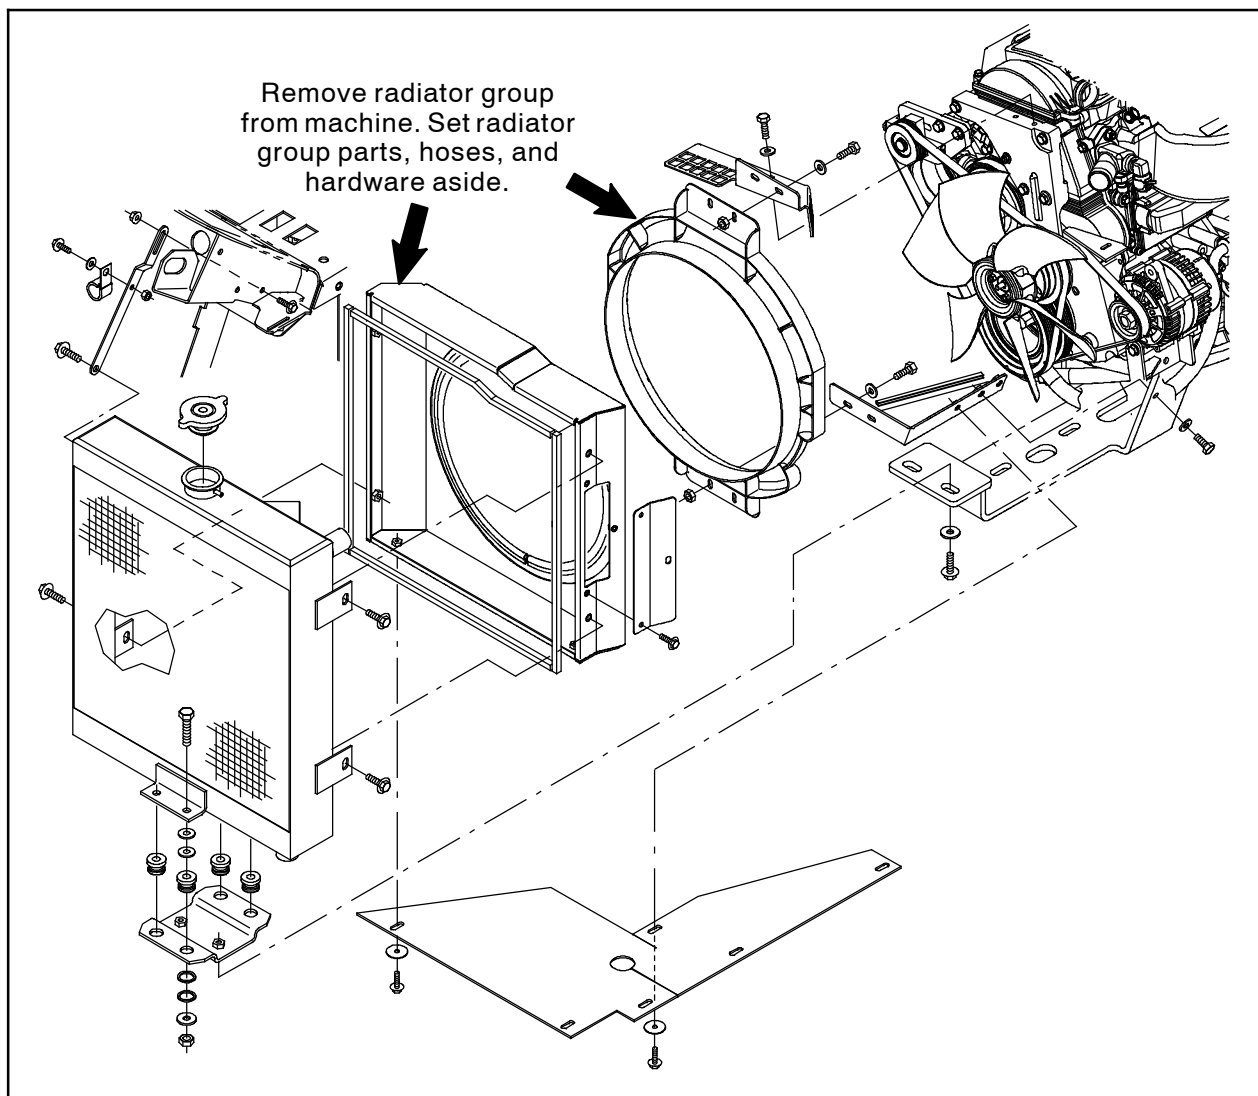
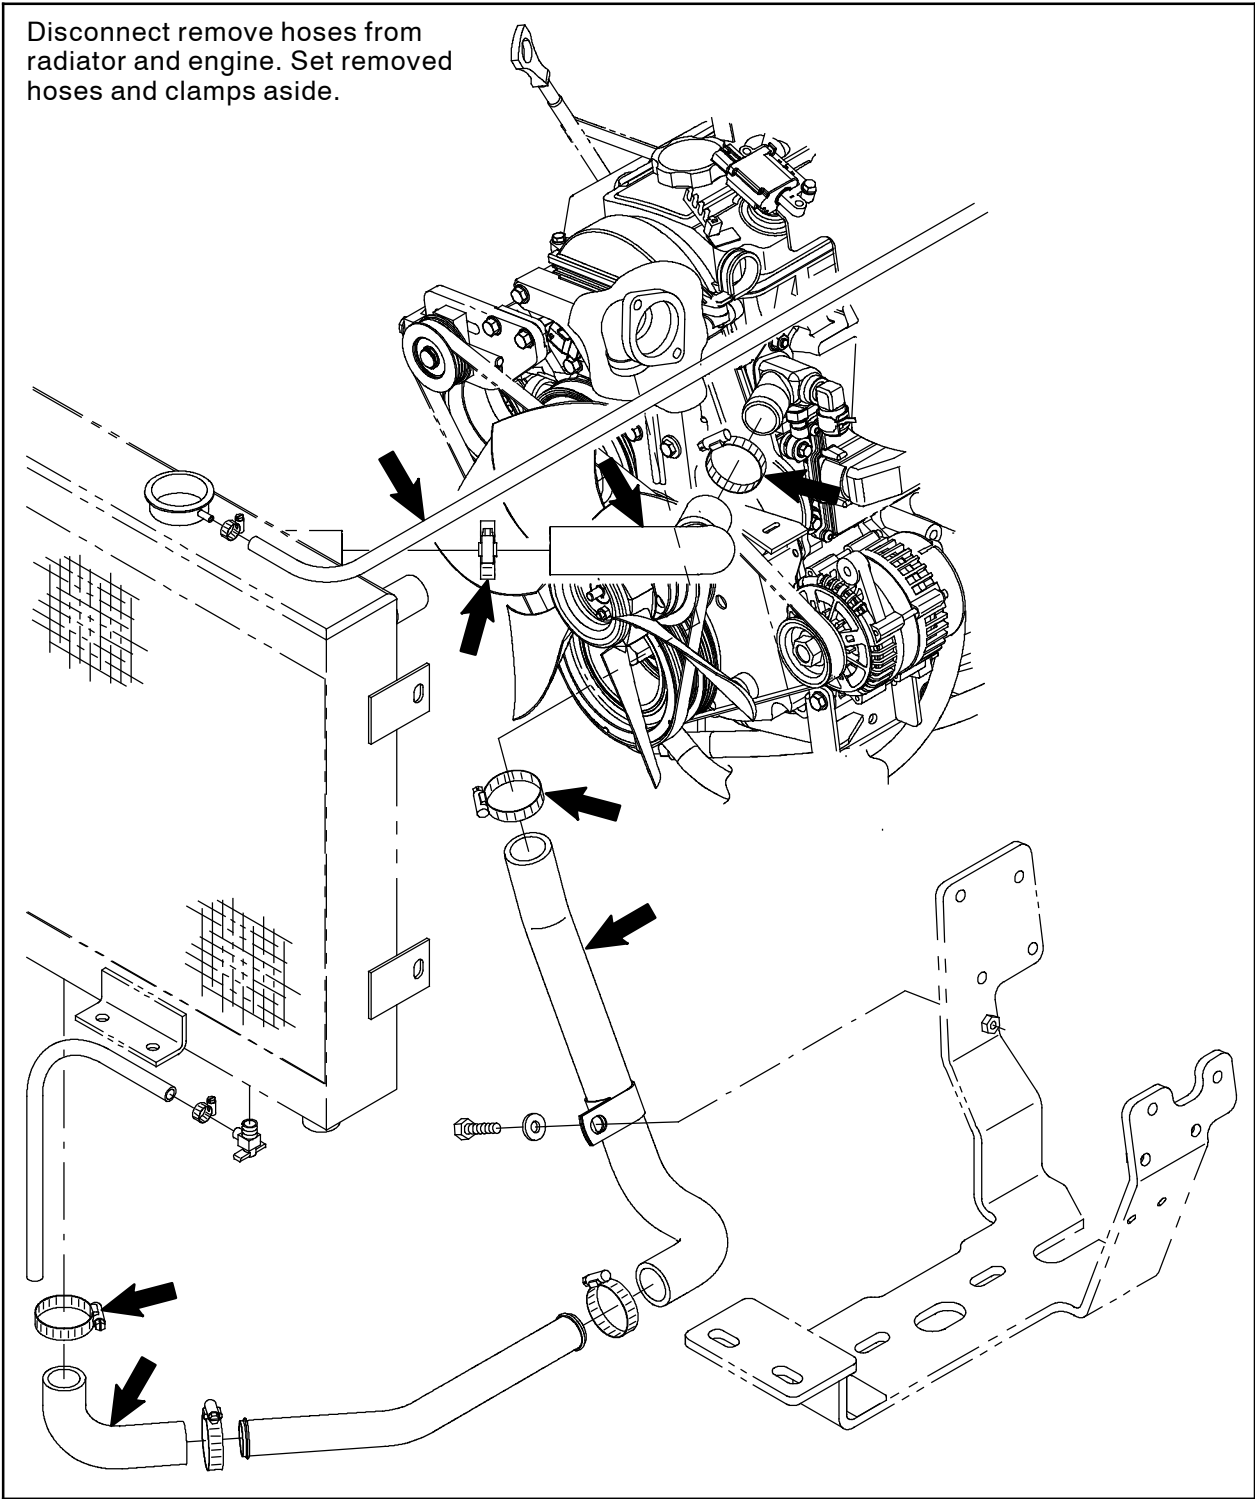

FIG. 2 - M20 / M30 / T20
FIG. 3 - M20 / M30 / T20
5. **M20 / M30 / T20:** Remove all radiator group parts and hoses necessary to access / remove the cylinder head cover / head from the engine. Set all removed parts and hardware aside. (Fig. 2 / Fig. 3)